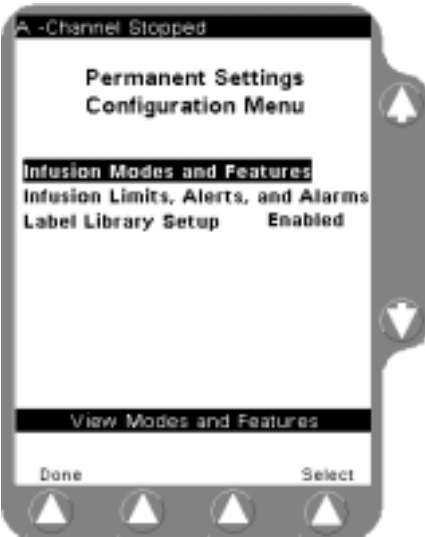

Figure 5-36 Configuration Screen Example
1. Use the $\uparrow\downarrow$ keys to highlight the desired Personality feature set, then press the **View Personality** soft key to view the Personality Configuration menu (Figure 5-36).